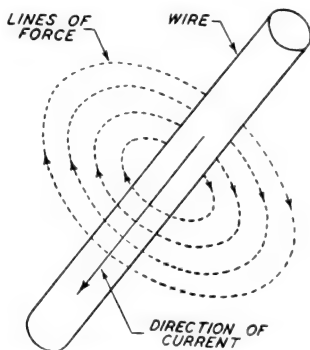

Fig. 2. Lines of Force of the Magnetic Field Lying at Right Angles to a Wire Carrying a Current
**Magnetic Lines of Force.** Magnetic fields are made up of many individual actions, called *lines of force*. It is these that you trace when you study the magnetic field. Fig. 2 shows these lines of force encircling a wire, similar to the action of the waves about the pebble that was tossed into the pool. It illustrates the right angle position which these lines of force assume around a wire carrying a current.